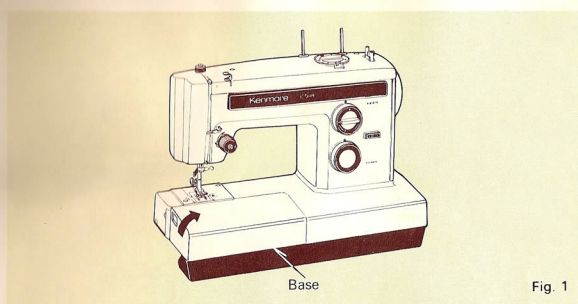

Fig. 1
1. Remove the base from the machine by lifting it from the left side (Fig. 1).